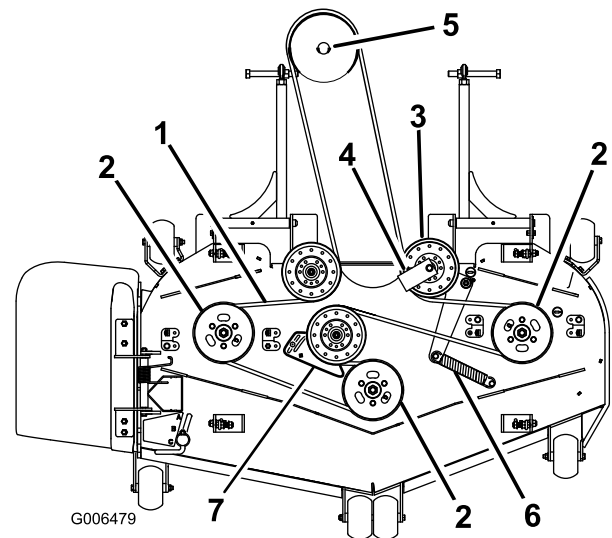
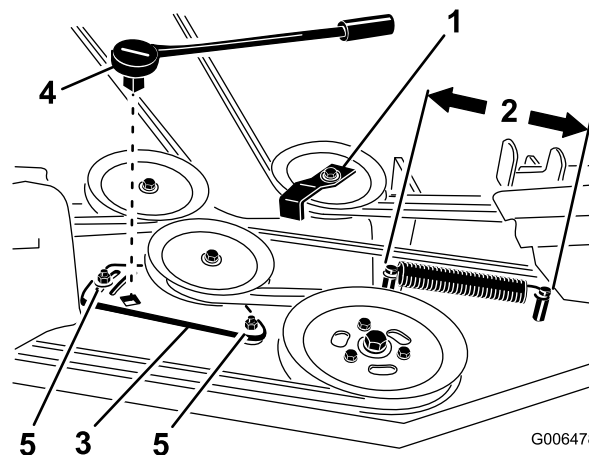

Figure 2
Figure 4
4. Loosen the idler plate bolts holding the idler plate (Figure 4).
6. Remove the belt guide on the spring loaded idler pulley shown in Figure 2 and Figure 4.
8. Install the new belt around the mower pulleys and the gearbox pulley under the engine (Figure 2).
9. Install the belt guide on the spring loaded idler at a 45 degree angle as shown in Figure 2 and Figure 4. Torque the bolt to 27 to 33 ft-lb (37 to 45 N-m).
10. Install the idler spring to the two posts (Figure 2 and Figure 4).
4. Measure the spring length (Figure 4). If the spring length is between 10 and 10-1/4 inches (25.4 and 26.0 cm), from post to post, no adjustment is needed.
5. Loosen the bolts holding the idler plate (Figure 4).
6. Insert a ratchet or breaker bar into the square hole in the idler plate to adjust the tension (Figure 4).
7. Rotate the ratchet or breaker bar to move the idler plate until the idler spring is between 10 and 10-1/4 inches (25.4 and 26.0 cm) from post to post as shown in Figure 4.
8. While holding the belt tension and spring length, tighten the idler plate bolts that secure the idler plate (Figure 4).